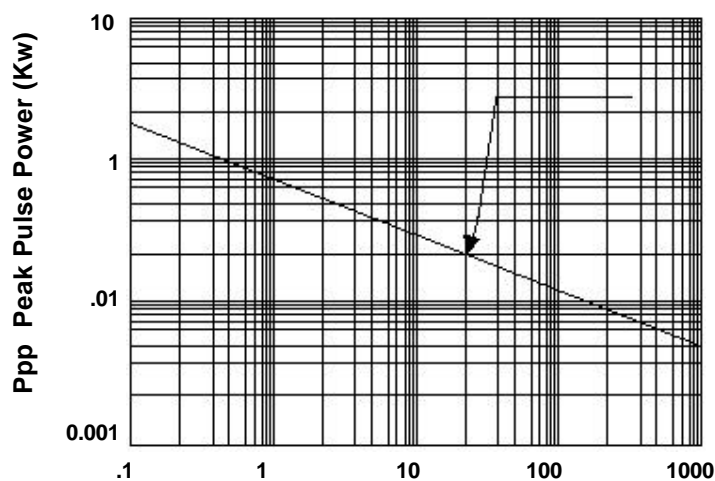

FIGURE 1
- Peak Pulse power 200 watts (8/20 μ s Figure 1)